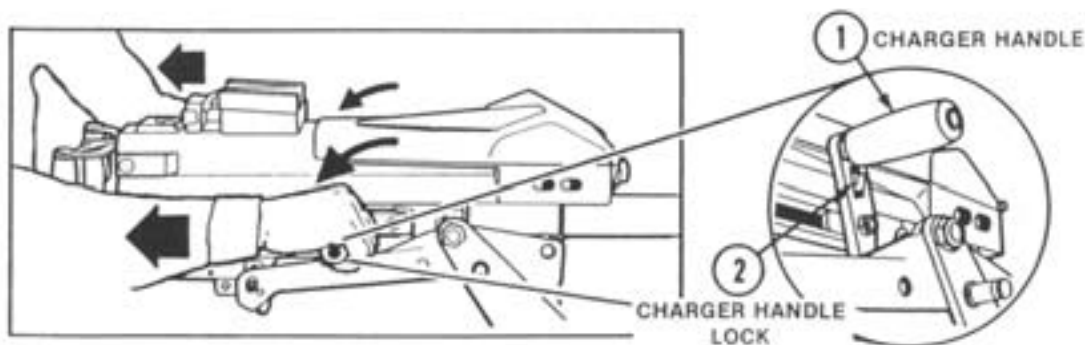

Figure 5-49. Rotating Charger Handles Down and Pulling to Rear.
- Rotate the charger handles down and pull them to the rear (see figure 5-49).